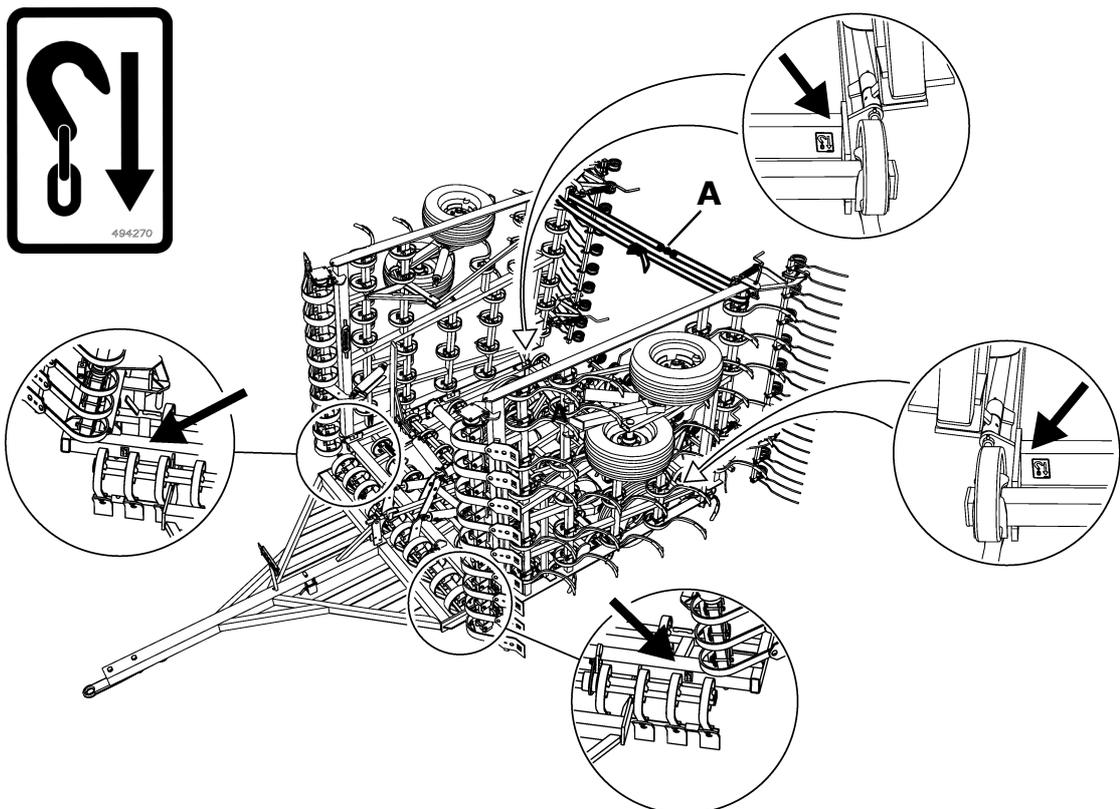

Figure 1.8
- 6 Secure the wing sections ready for transport using tension straps (A) or similar; see "Figure 1.8".
- 7 Secure the machine using suitable lashing equipment in accordance with applicable rules. The lashing equipment must be attached to the machine at the locations indicated by the decals; see "Figure 1.8".